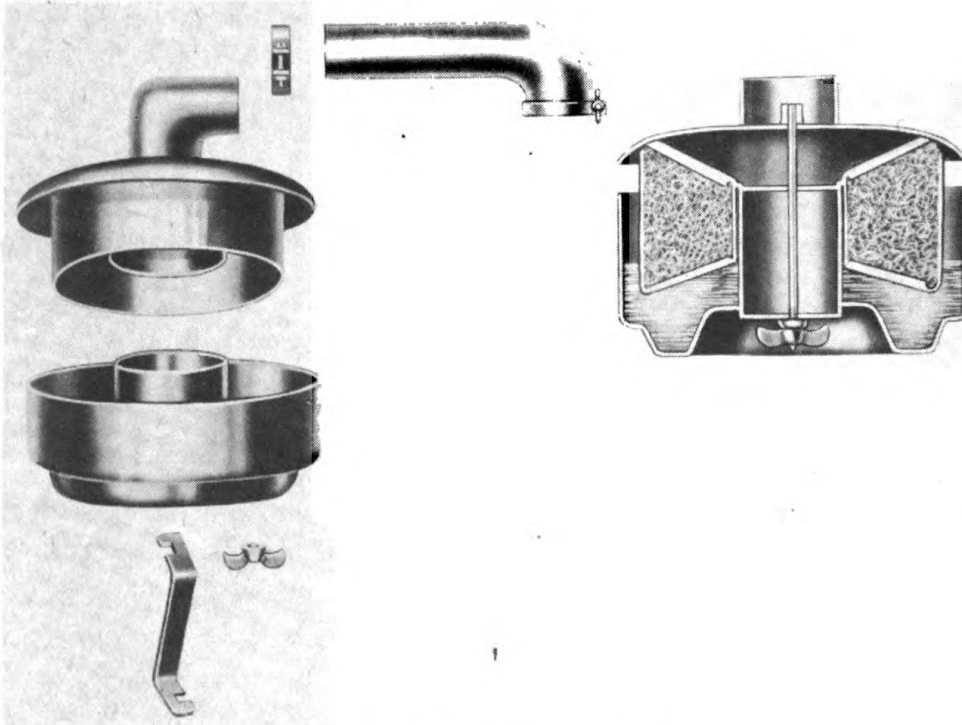

Figure 22—Carburetor Air Cleaner
h. Service carburetor air cleaner. Clean the element of the carburetor air cleaner with a SOLVENT, dry cleaning, and compressed air and refill. (Figure 22.) See Lubrication Section XVI.